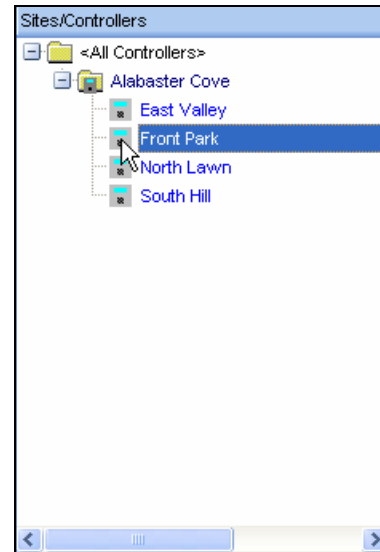

Figure 11.0.8
- Next select the controller or controllers that you want the task to be performed on. If it is a site of controllers just highlight the site name in the **“Site / Controllers”** window. You can add as many sites as you want just Click on the site name with the left mouse button to highlight it. Then holding the button drag and drop the controller into the task function folder (Figure 11.0.8). You can select individual controllers by clicking on the site name that the controller belongs to, and then using the **“+”** symbol to the left of the site to expand the list. Click on the controller name with the left mouse button to highlight it. Hold the button and drag and drop the controller into the task function folder (Figure 11.0.8).